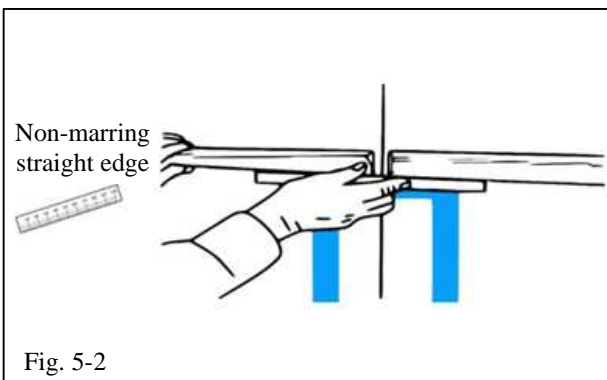

Fig. 5-2
- (d) Check the alignment between the moldings by placing a non-marring straight edge flush with the bottom of the front and rear moldings (Fig. 5-2).